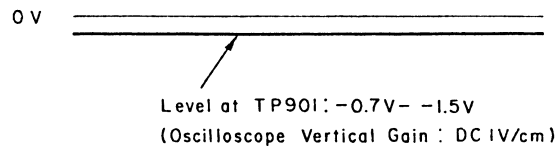

Fig. 4.6
Refer to Figs. 4.6 – 4.8.
- (b) Connect a Synchroscope to TP901 on the Detector P.C.B. Ass'y. Set Synchroscope to DC mode and 1 V/cm vertical gain. Check to insure that the minus level (-0.7 to -1.5 V) is observed on the Synchroscope as shown in Fig. 4.6.